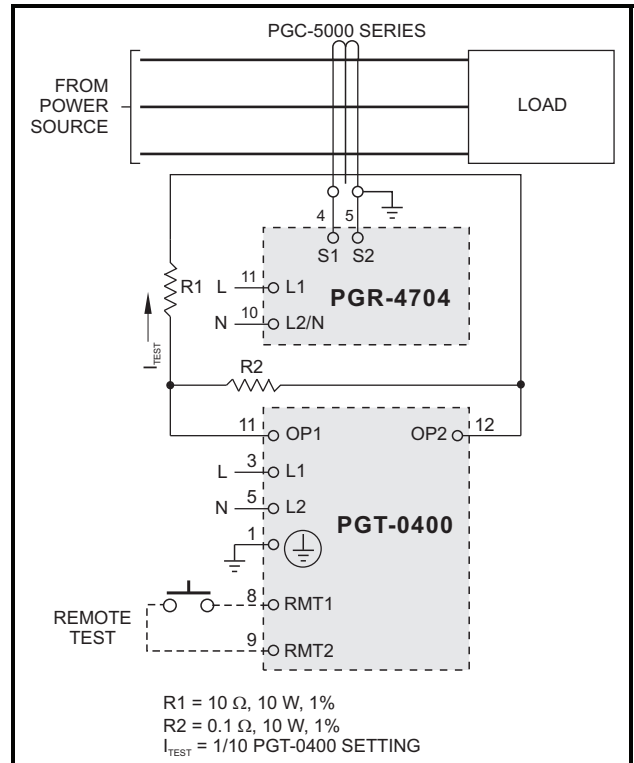

FIGURE 6. Ground-Fault-Test Circuit.
- Verify proper reaction of the circuit-interrupting device in response to a simulated or controlled ground-fault current. To simulate ground-fault current, use CT-primary current injection. Fig. 6 shows a test circuit using the PGT-0400 Ground-Fault-Relay Test Unit. The PGT-0400 has a programmable output of 0.5 to 9.9 A for a duration of 0.1 to 9.9 seconds. Fig. 6 shows the use of resistors that reduce the injected current to 10% of the PGT-0400 setting. Set the test current to 120% of the PGR-4704 setting. Inject the test current through the CT window for at least 2.5 seconds. Verify that the circuit under test has reacted properly. Correct any problems and re-test until the proper reaction is verified.